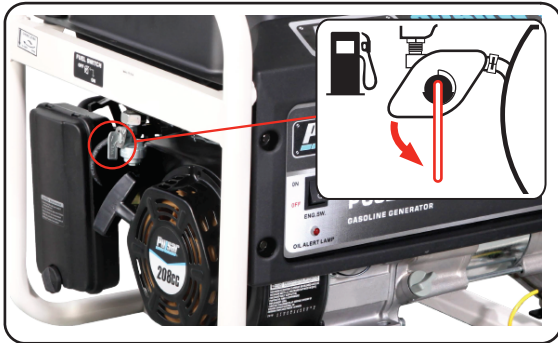

Fig 4
- Turn fuel valve to the “ON” position. (See fig 4)